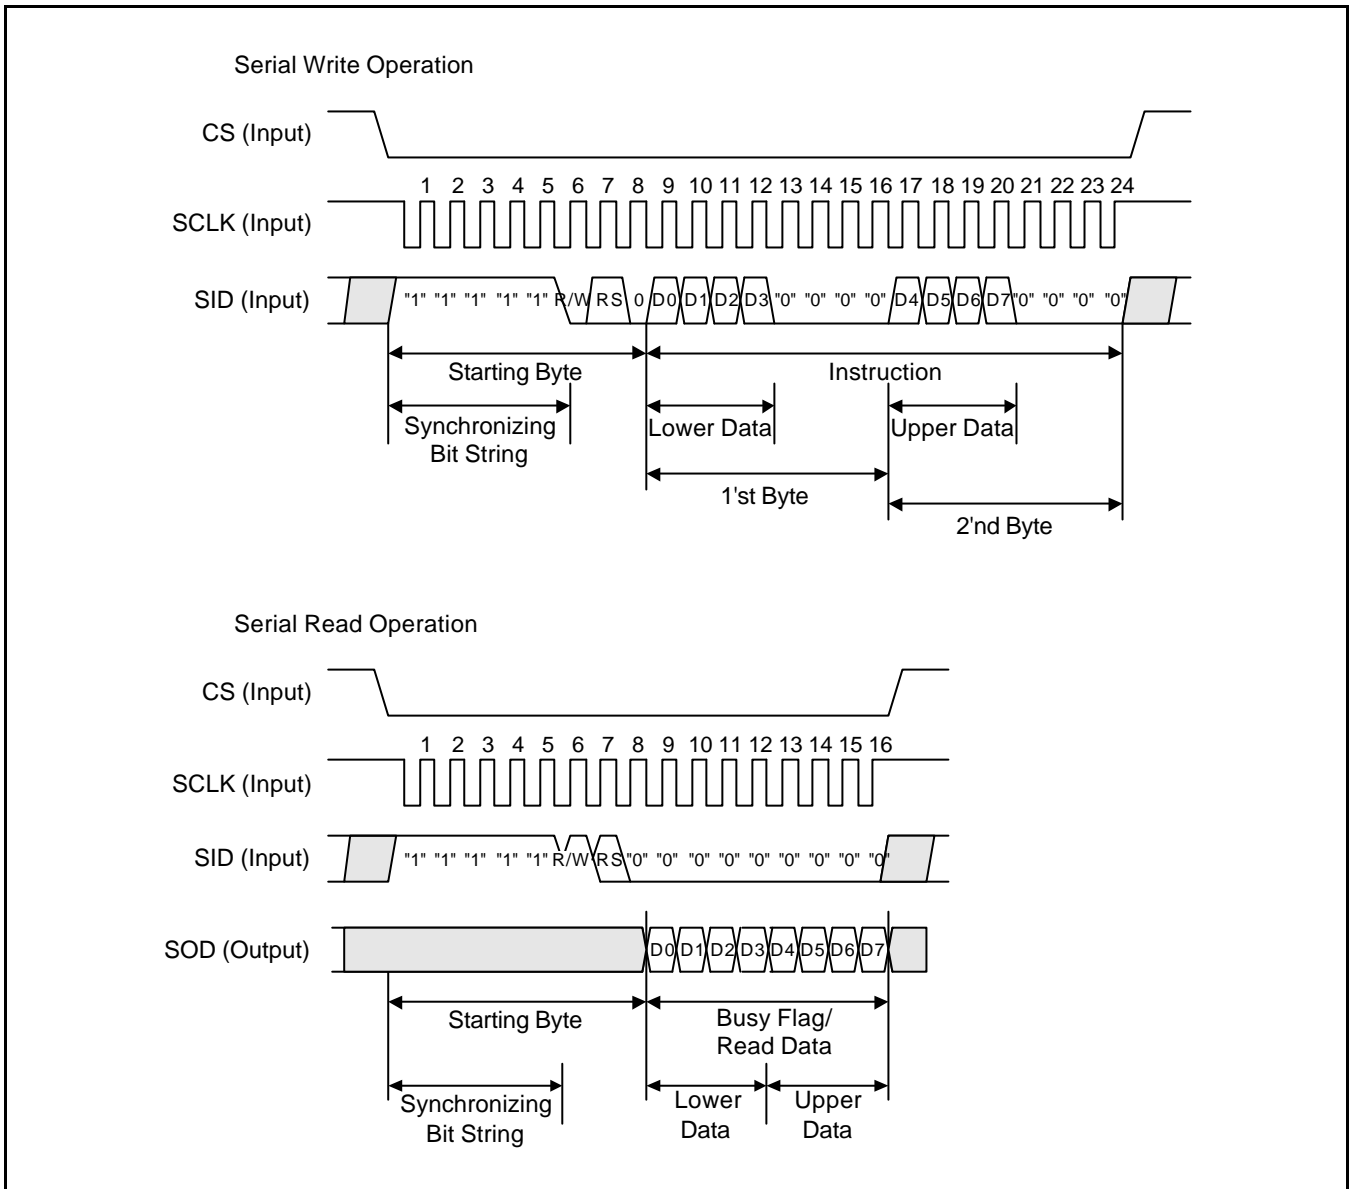

Figure 13. Timing Diagram of Serial Data Transfer
Before transfer real data, start byte has to be transferred. It is composed of succeeding 5 "High" bits, register selection bit (RS), read write control bit (R/W), and end bit that indicates the end of start byte. Whenever succeeding 5 "High" bits are detected by S6A0078, it makes serial transfer counter reset and ready to receive next information. The next input data are register selection bit that determine which register will be used, and read write control bit that determine the direction of data. Then end bit is transferred, which must have "Low" value to show the end of start byte. (refer to Figure 13, Figure 14)